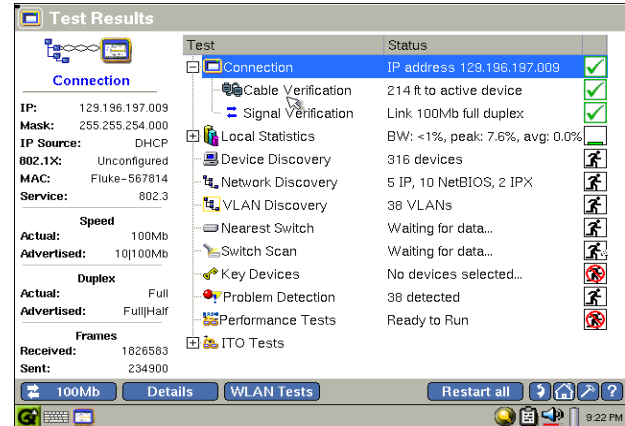

Figure 5. LAN Test Results Screen
- 4 After you turn on and connect the instrument, it goes through a complete power-up sequence, which entails initializing the processor and memory, performing a self-test, and loading the operating system and application software. When this process is completed, the autotest results screen (Figure 5) is displayed.
After you power on the EtherScope Network Assistant and connect to the network, the instrument runs a series of automated tests and displays its findings on the **Test Results** screen, as shown in Figure 5.